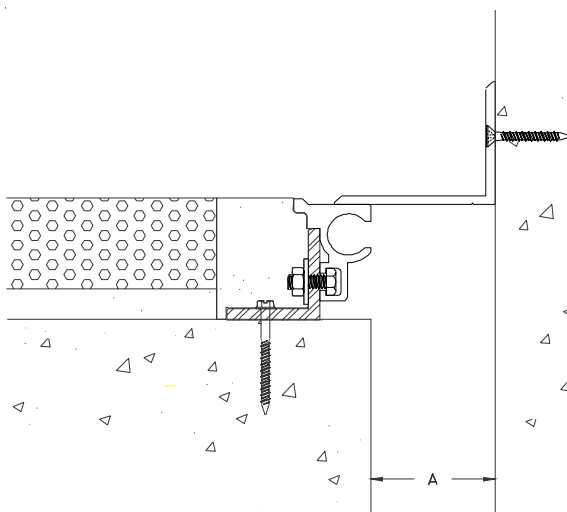

Figure 9
STEP 14. Grout continuously between the base member assemblies and the pavers (see Figure 9).